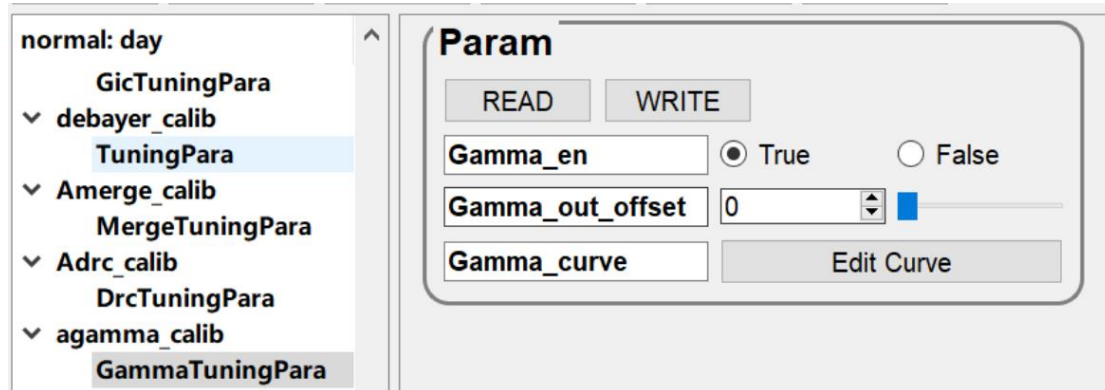

Figure 5-4-1-1 Gamma UI
1. As shown in Figure 5-4-1-1, enter the GammaTuningPara page, and click the “Edit Curve” of the Gamma\_Curve parameter to open the Gamma visual tuning UI
2. As shown in Figure 5-4-1-2, the Gamma visual tuning UI includes the following functions: